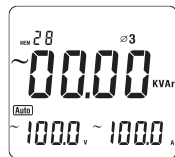

Figure 20
- Press **SELECT** again to choose the third phase $\varnothing 3$, see figure 20.